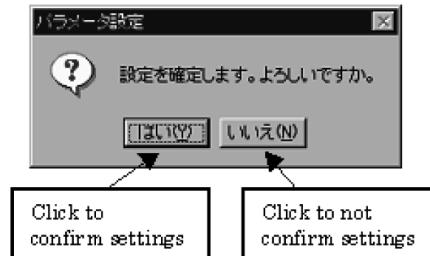

Fig. 8.9.2 Message Box
- When the message box as shown in Fig. 8.9.2 appears, click [はい(Y)] [Yes] to confirm the changes you made. Click [いいえ(N)] [No] if you are not confirming the changes.